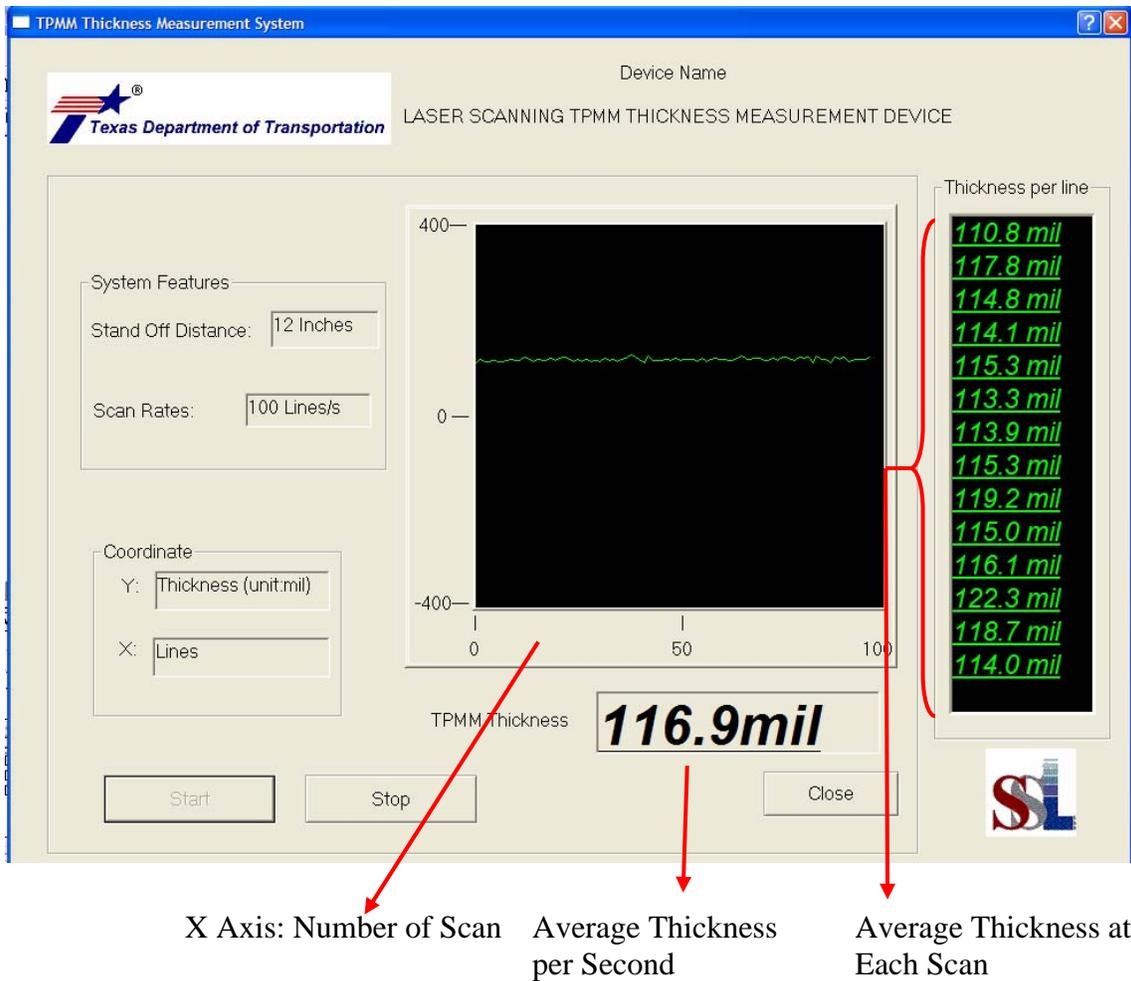

Figure 13 Thickness information display.
- **Measurement result:** the TPMM thickness information (unit: mil). Each result of the average thickness of TPMM measured at every scan is shown in the “Thickness per line” area. The result of the average thickness of TPMM measured per second is shown in the “TPMM thickness” area. Figure 13 shows the thickness information on those two result display areas.
Figure 13 shows the thickness information on the chart area.